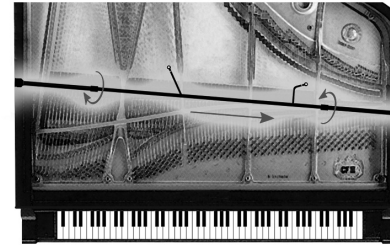

Figure 8. Favoring the High Strings
8. With the PianoMic™ in place, you will need to determine if you want the microphones to favor the high strings, low strings or neither. The center section of the PianoMic™ can slide up to eight inches in either direction in order to favor the high or low strings, if desired. This positioning is illustrated in Figures 8 and 9.